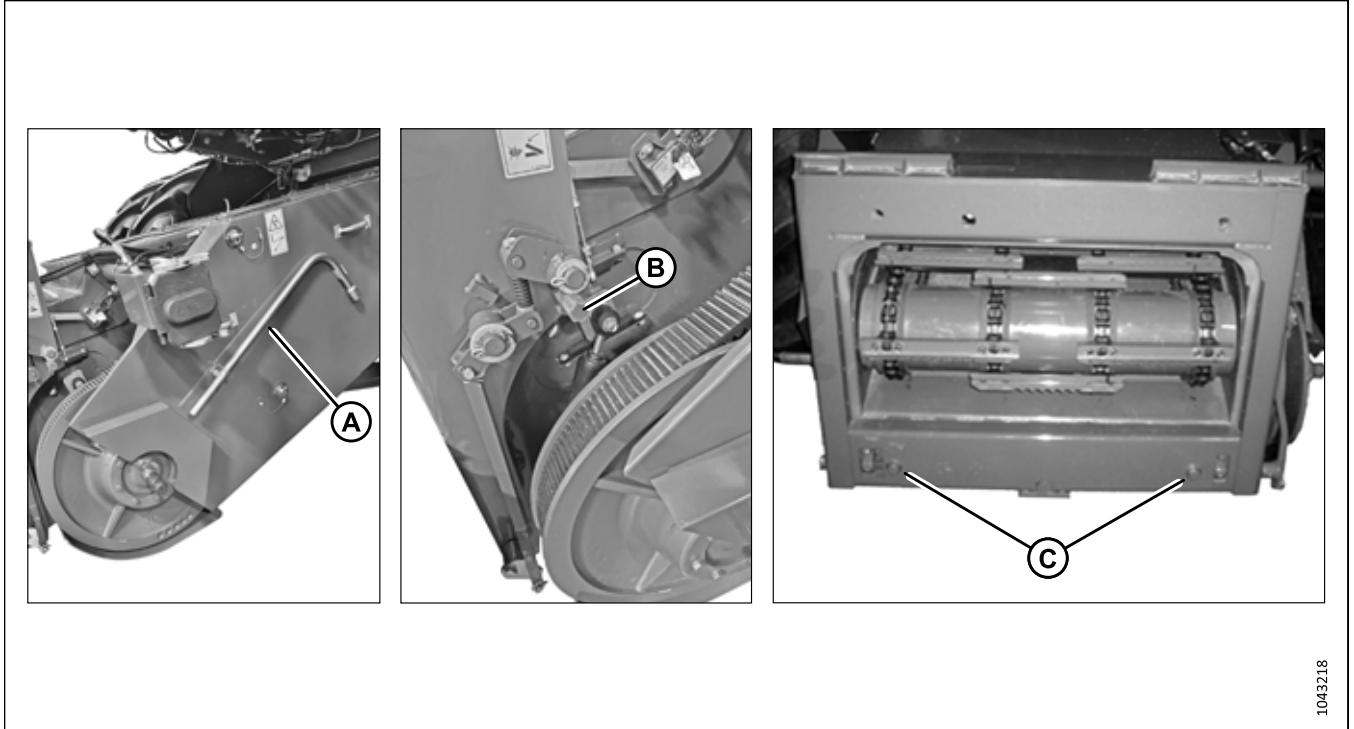

Figure 4.14: Feeder House
Ensure that alignment pins (C) (refer to Figure 4.14, page 63) on the feeder house align with holes (B) in the float module frame.